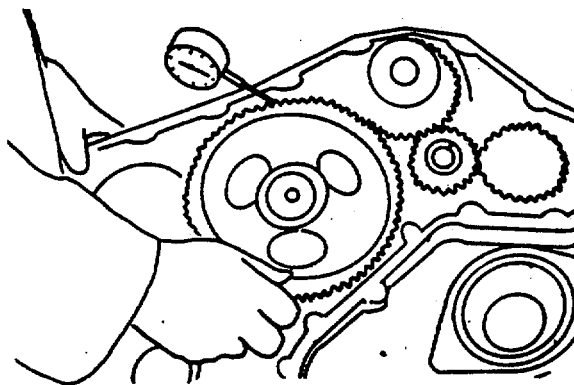

FIGURE 3-72. Camshaft Gear Indicator.
(1) Position an indicator on a tooth of the camshaft gear (FIGURE 3-72).